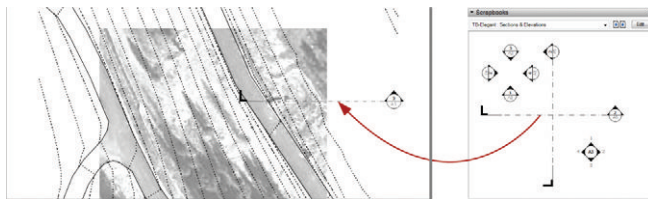

Figure 15.38 Insert a section cut callout.
3. Using the Next Page button in the Scrapbooks Inspector, navigate to the Sections and Elevations page of the TB-Elegant scrapbook. Add a section cut line where the section plane was added in SketchUp (Figure 15.38).